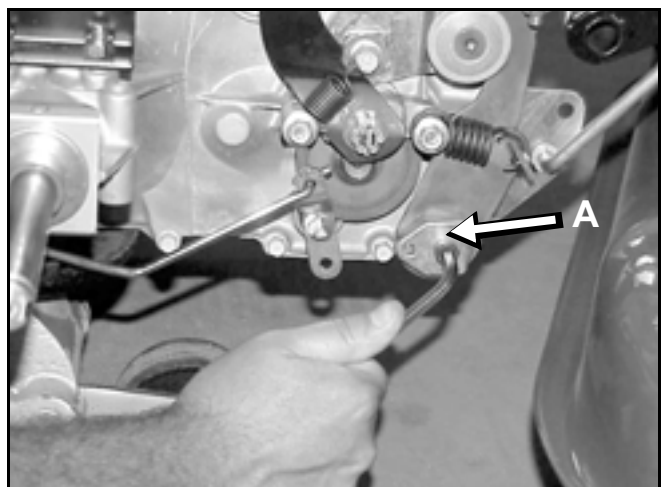

Figure 137
2. Locate the adjusting puck and loosen the Allen head bolt. If difficult to loosen, heat the aluminum case near the bolt with a propane torch (Figure 137).
4. Rotate the adjusting puck in both directions and watch the axle direction. You want to adjust the puck so it is set at the midpoint between forward and reverse axle rotation. Make sure the axle is not moving (Figure 137).